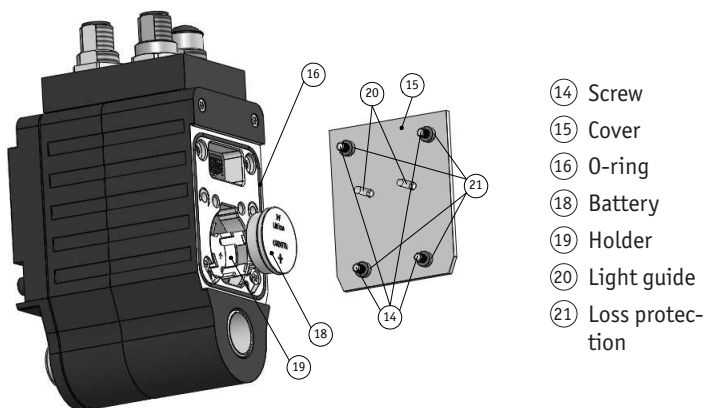

Fig. 12: Changing batteries
### Actuator failure (Fig. 12)
### Dismounting (see Fig. 12):
1. The battery compartment is situated behind the cover of the cover (15).
2. Remove the cover (15) incl. the plugged screws (14) with loss protection (21) and light guide (20).
4. Grasp the used battery (18) at the upper edge and pull out axially.
**Mounting (see Fig. 12):**
- Axially click new battery (18) into holder (19).
- Check the correct position of the O-ring (16) überprüfen. O-ring lie completely in the groove destined for this purpose.
- Mounting the cover (15) incl. the plugged screws (14) with loss protection (21) and light guide (20). Carefully insert the light guide into the holes provided in the housing.